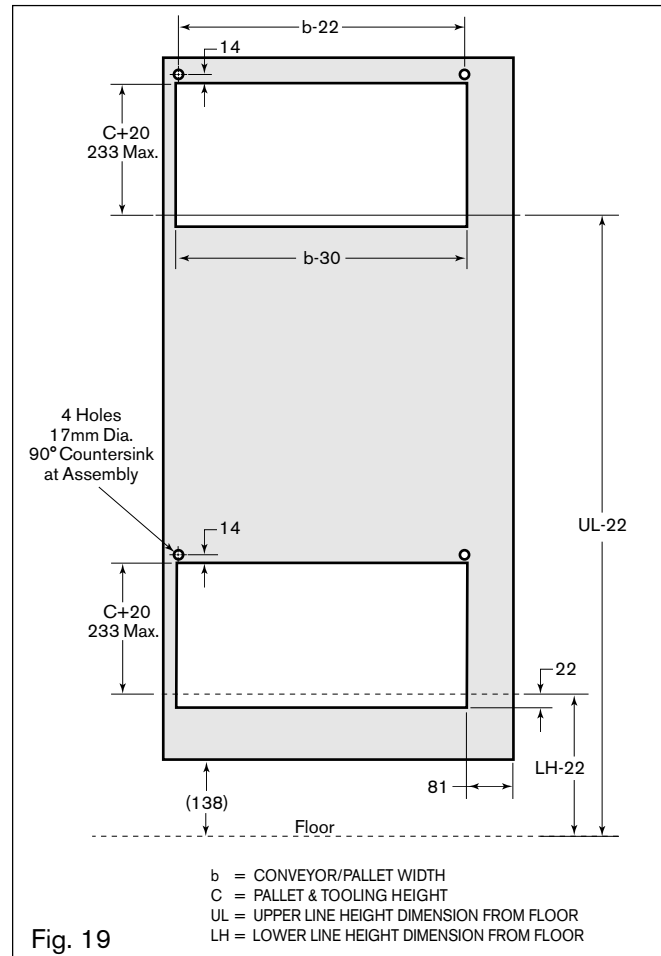

Fig. 19
1. Using a straight edge and pen, draw the cut pattern(s) on the wrapper of the panel where you need the opening(s). Fig. 19 shows an example for cut patterns for a VT2 used in over and under operation.
NOTE: These holes facilitate cutting only. They are not to be confused with the holes shown in Fig. 19. The holes shown in Fig. 19 must be drilled to secure the tunnel guards to the VT2.